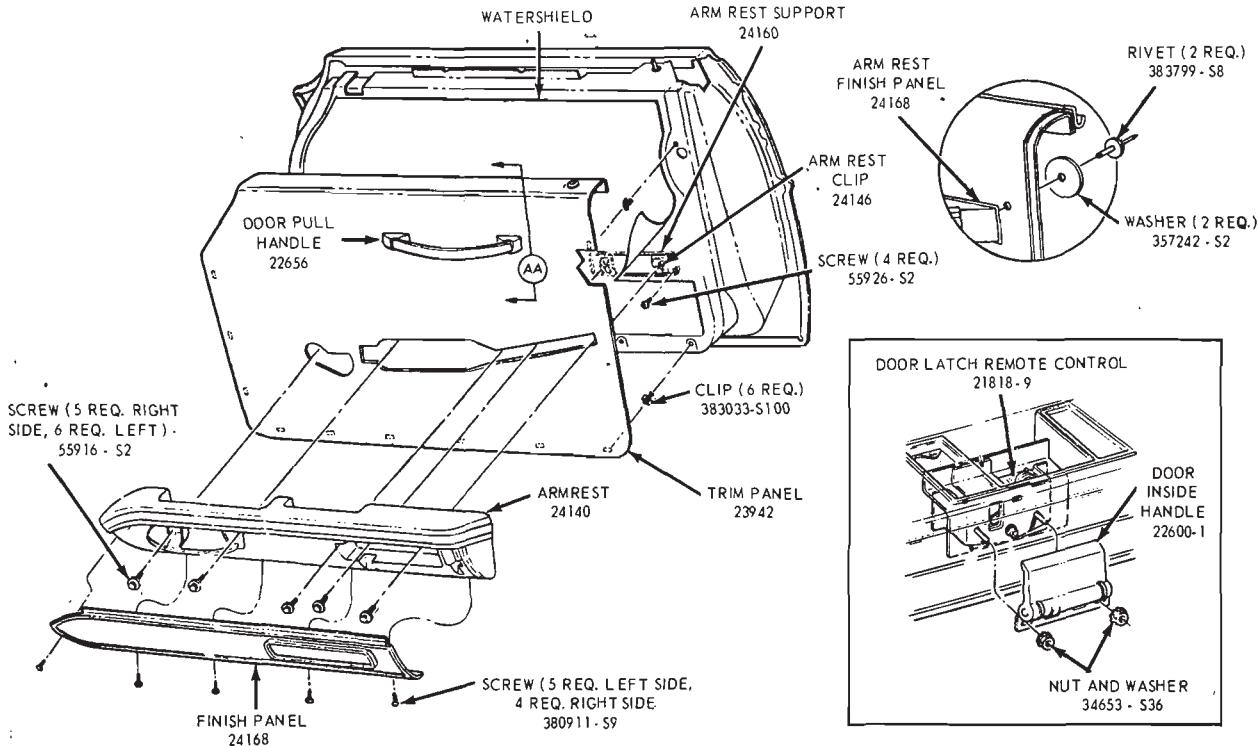

FIG. 3—Door Trim Panel Installation—Thunderbird and Continental Mark III
4. Remove the armrest finish panel attaching screws, disconnect the light wire, and remove the finish panel from the armrest (Fig. 3).